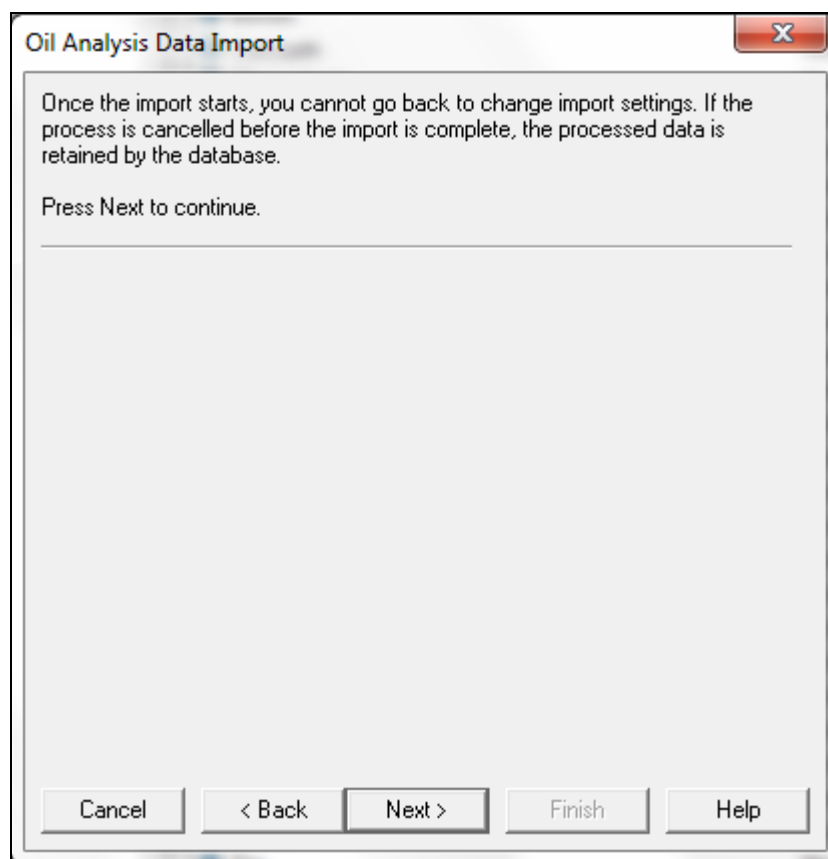

Figure 3. Import confirmation
5. Press [Next] again to continue. [Figure 3]